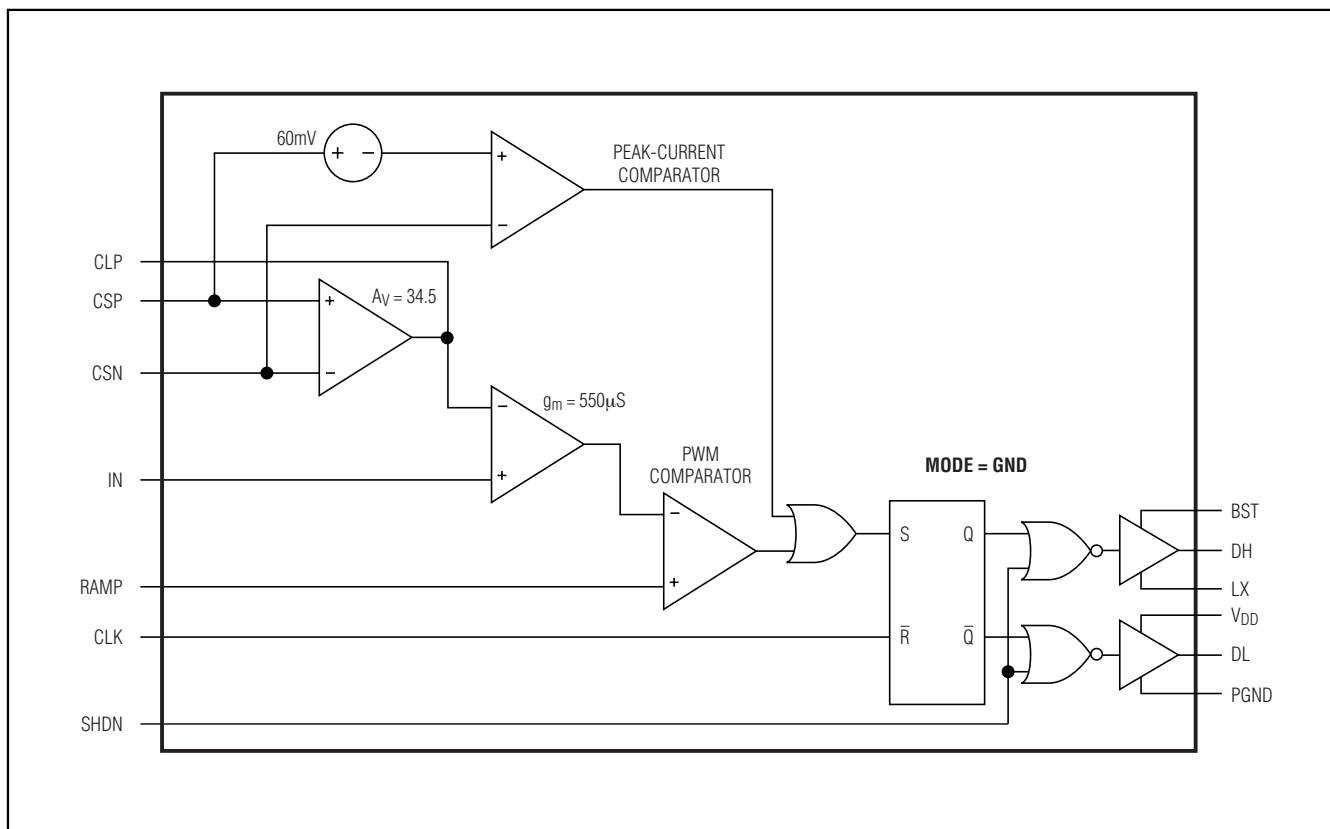

Figure 3. MAX16821A/MAX16821B/MAX16821C Phase Circuit
The peak-current comparator provides a path for fast cycle-by-cycle current limit during extreme fault conditions, such as an inductor malfunction (Figure 3). Note the average current-limit threshold of 27.5mV still limits the output current during short-circuit conditions. To prevent inductor saturation, select an inductor with a saturation current specification greater than the average current limit. The 60mV threshold for triggering the peak-current limit is twice the full-scale average current-limit voltage threshold. The peak-current comparator has only a 260ns delay.
$2\text{V}_{\text{p-p}}$  ramp signal. At the start of each clock cycle, an R-S flip-flop resets and the high-side driver (DH) turns on if MODE is connected to SGND, and DL turns on if MODE is connected to  $V_{\text{CC}}$ . The comparator sets the flip-flop as soon as the ramp signal exceeds the CLP voltage, thus terminating the ON cycle. See Figure 3.